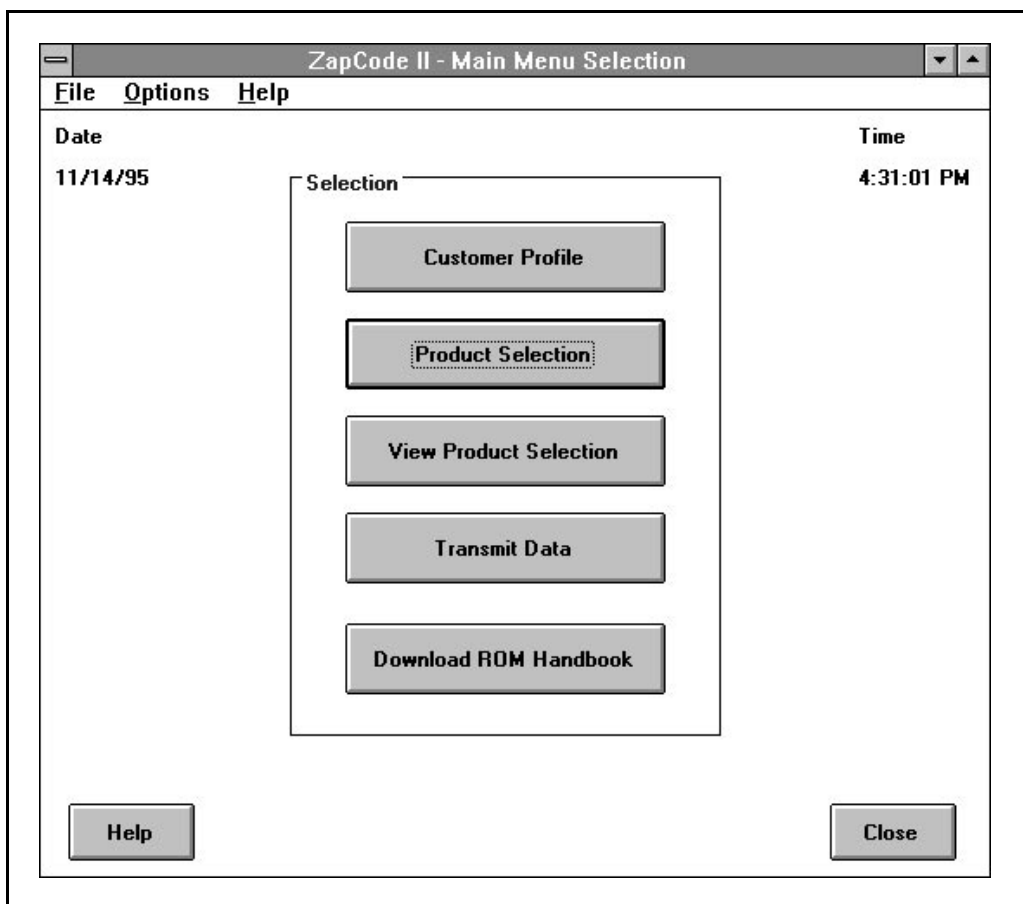

Figure 7-3. The ZapCode II Main Menu
- Following authentication, the Main Menu (Figure 7-3) will display on your screen.